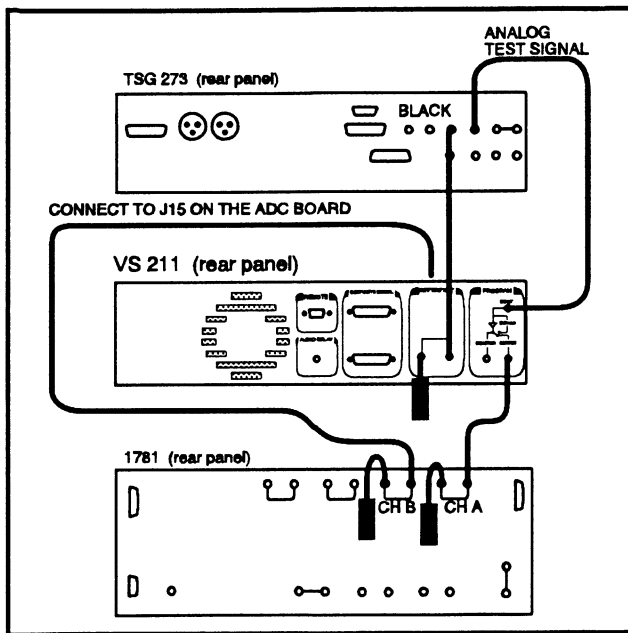

Fig. 4-29. Setup to adjust the ADC frequency response.
- a. Connect the test equipment as shown in Fig. 4-29.